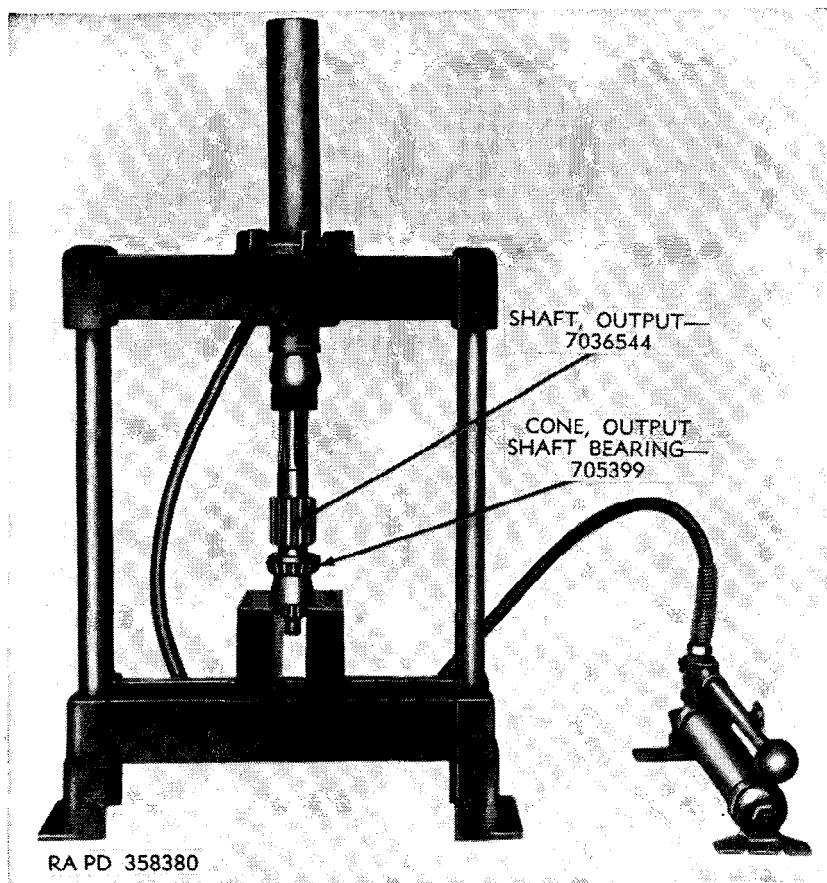
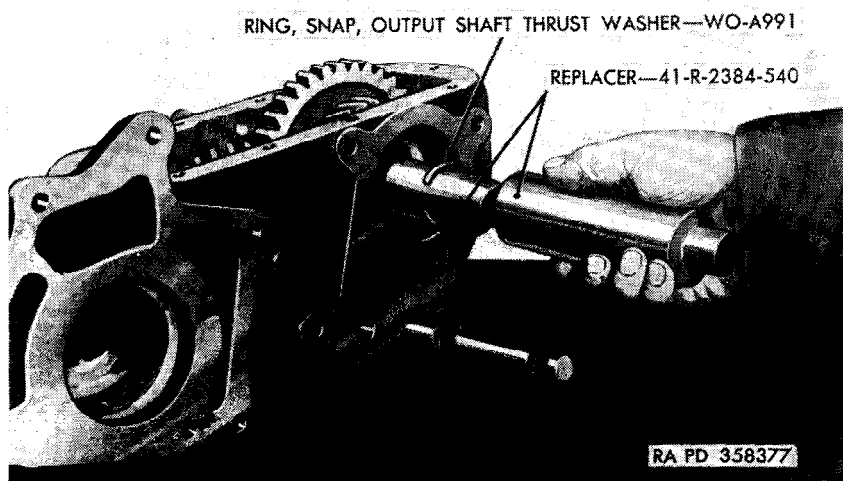
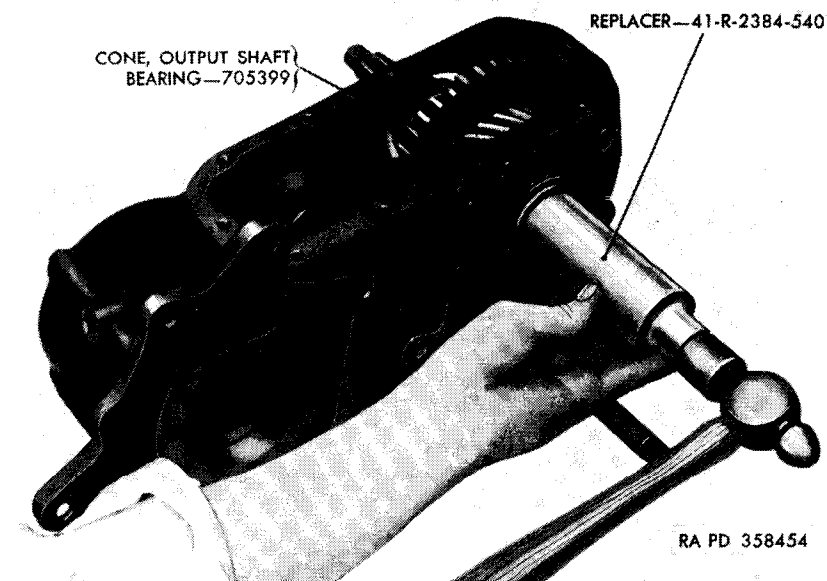

Figure 41. Installing roller bearing on output shaft.
Figure 42. Installing output shaft thrust washer snap ring.
Figure 43. Installing output shaft front roller bearing.
cone (Q) onto the output shaft (P, fig. 34 and fig. 41). Place the output shaft sliding gear (M) in the transfer case (A) with the output shaft sliding gear shifter fork (A, fig. 35), in the channel on the output shaft sliding gear. Place the output shaft gear (L) in the transfer case (A) with the shoulder of the output shaft gear facing the output shaft sliding gear. Insert the output shaft (P) into the transfer case (A) and through the gears. Slide the output shaft thrust washer (K) onto the output shaft. Slide thimble of replacer 41-R-2384 over end of output shaft and place output shaft thrust washer snap ring (J, fig. 34 and fig. 42) over small end of thimble. Install driven end of replacer 41-R-2384-540 over end of thimble until it contacts snap ring. Then push snap ring over thimble and onto shaft to secure the thrust washer and gear. Slide the output shaft bearing cone (H) onto the output shaft and using replacer 41-R-2384-540, tap the output shaft bearing cone (fig. 43) snug against the snap ring. Tap the output shaft bearing cup (G) into the transfer case (A) until the bearing cup is slightly below being flush with the case. Tap the output shaft bearing cup (R) into the transfer case (A) until the bearing cup is approximately $\frac{1}{8}$ inch above machined surface of the case.